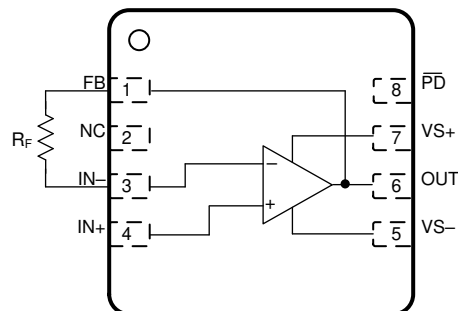

Figure 8-4. R_F Connection Between FB and IN $-$ Pins
1. A feedback resistor (R_F) can connect between the FB and IN $-$ pin on the same side of the package (see Figure 8-4) rather than going around the package.